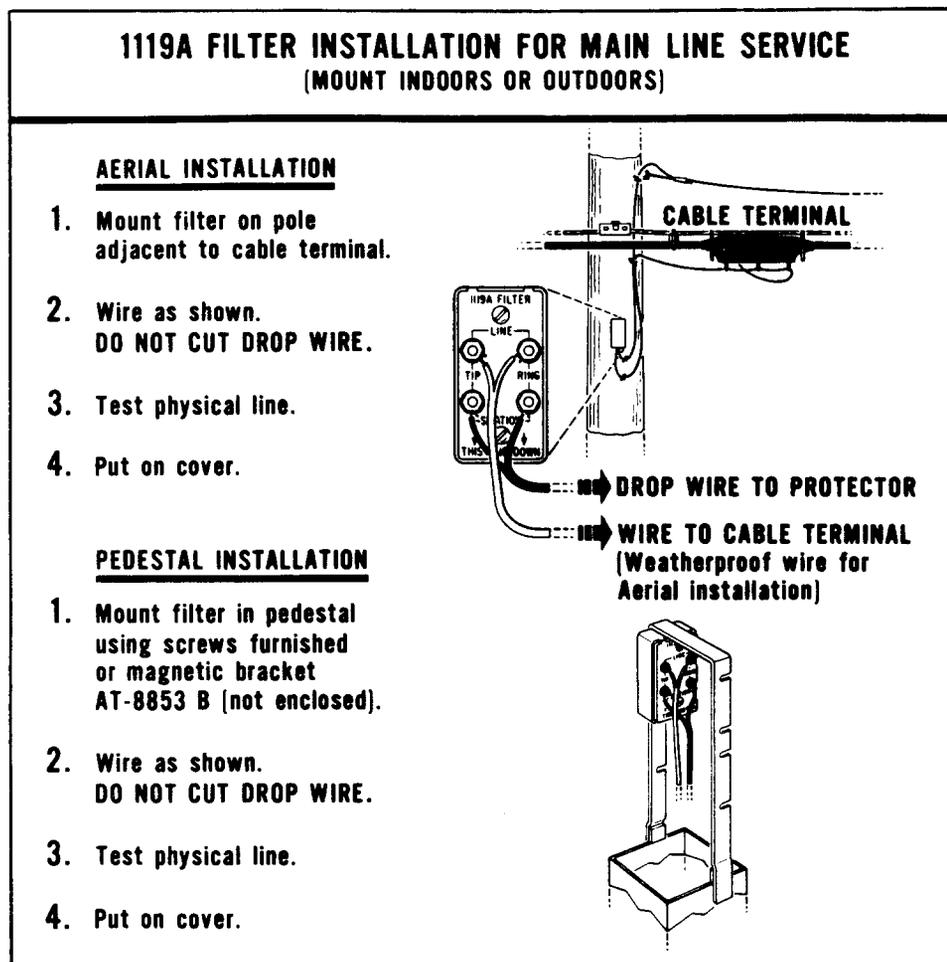

Fig. 4—Label Showing Installation of 1119A Filter for Main Line Service
3.01 When the SLC-1 unit is used to provide service to a different location than the physical subscriber (i.e., fed by different drop wires), the 1119A filter should be mounted at the distribution terminal pole, or pedestal, serving the physical subscriber (Fig. 4). Do not place the filter on the physical subscriber's premises.